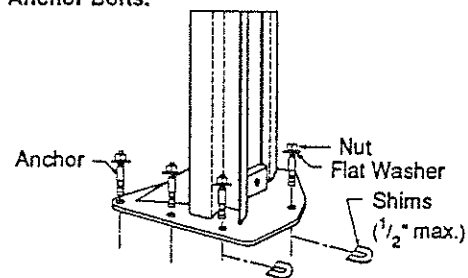

Fig. 20
18. Using shims provided, shim each column base until each column is plumbed properly, using a level of 36" or longer. Plumb the columns first front and rear, then, side-to-side. Maximum shim thickness is  $\frac{1}{2}$ ", Fig. 20. Recheck column for plumb. Reshim if necessary. Tighten anchor bolts to an installation torque of 150 ft.-lbs.